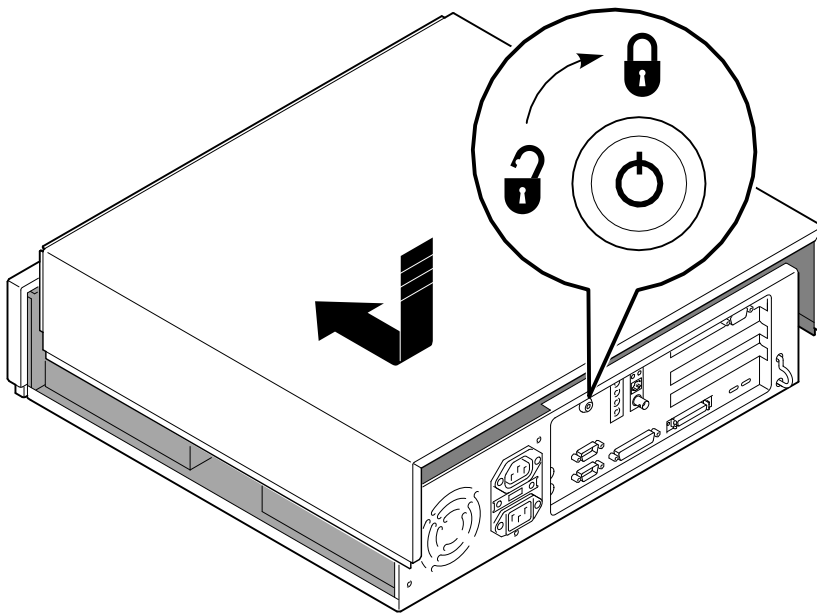

Figure 3-23. Replacing and Locking System Cover
4. Lock system cover, as Figure 3-23 shows.